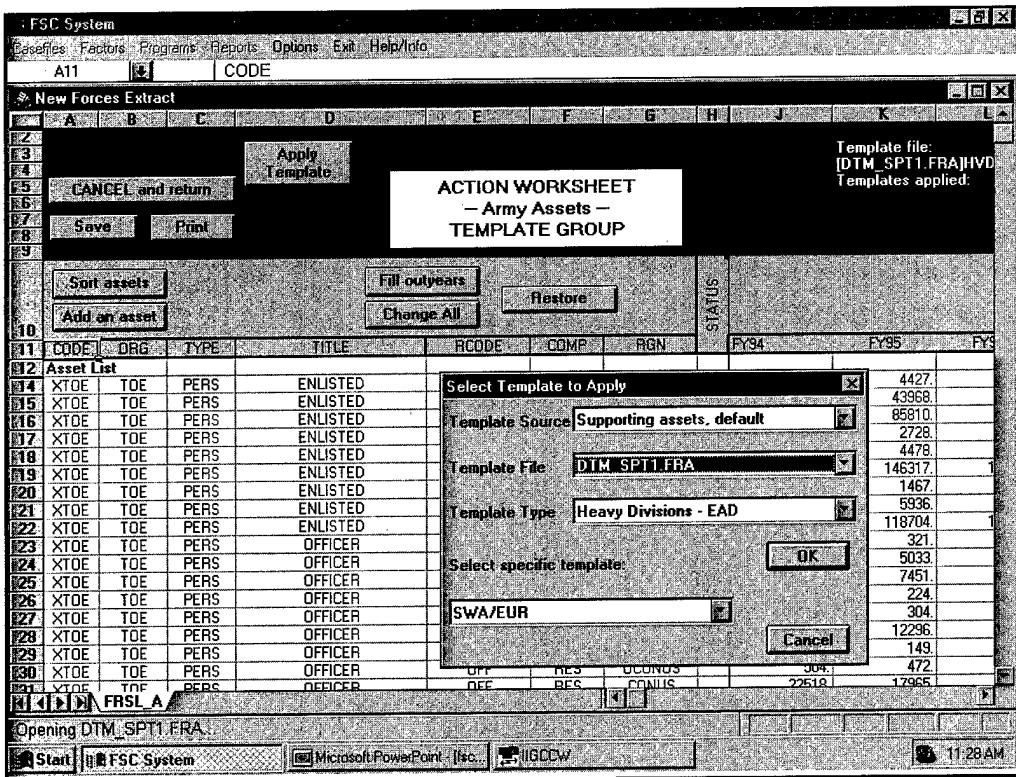

Figure A.3 — Selecting a Template to Apply
**Step 3.** Press the “Apply Template” button on the action worksheet. The button opens a dialog box that asks for more information about which template you wish to apply. You can select one of the templates stored in the FSC central database or one that you customized by following the same procedures used to customize any factor file. See Figure A.3.